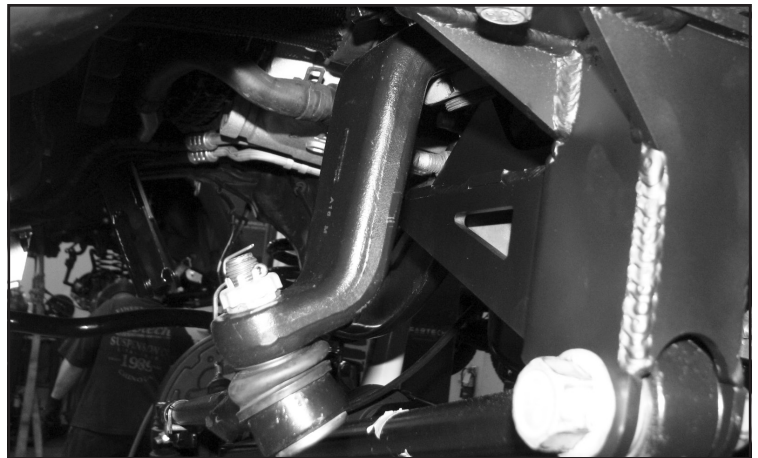

FIGURE 18 - STEP 23
23. Reinstall the track bar to the new frame bracket. Torque to 300 ft-lbs. Install the drag link to the new Fabtech pitman arm using the factory hardware and the new supplied cotter pin. **NOTE: The drag link will need to be rotated 180 degrees and installed from the bottom side of the pitman arm. SEE FIGURE 18**